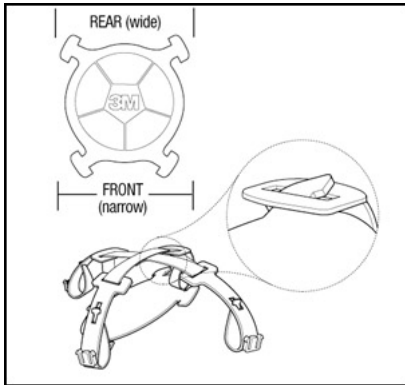

Fig. 3a: Installing the Head Pad
- Slip the head pad tabs into the four slots in the hanger suspension (Fig. 3a).